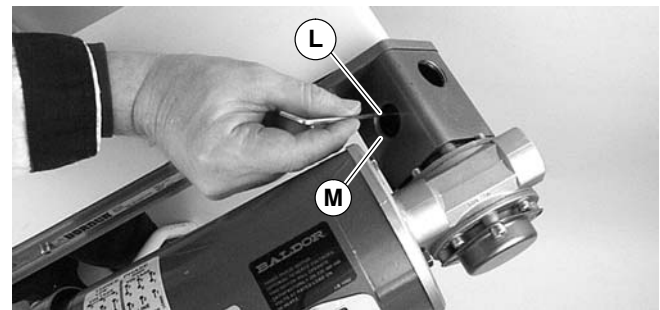

Figure 16
7b. Jog motor and rotate coupling to align set screw (L of Figure 16) with access hole (M). Tighten to 32 in-lb (3.7 N-m). Repeat for second set screw.
2. Jog motor and rotate coupling to align set screw (L of Figure 16) with access hole (M). Loosen set screw. Repeat for second set screw.